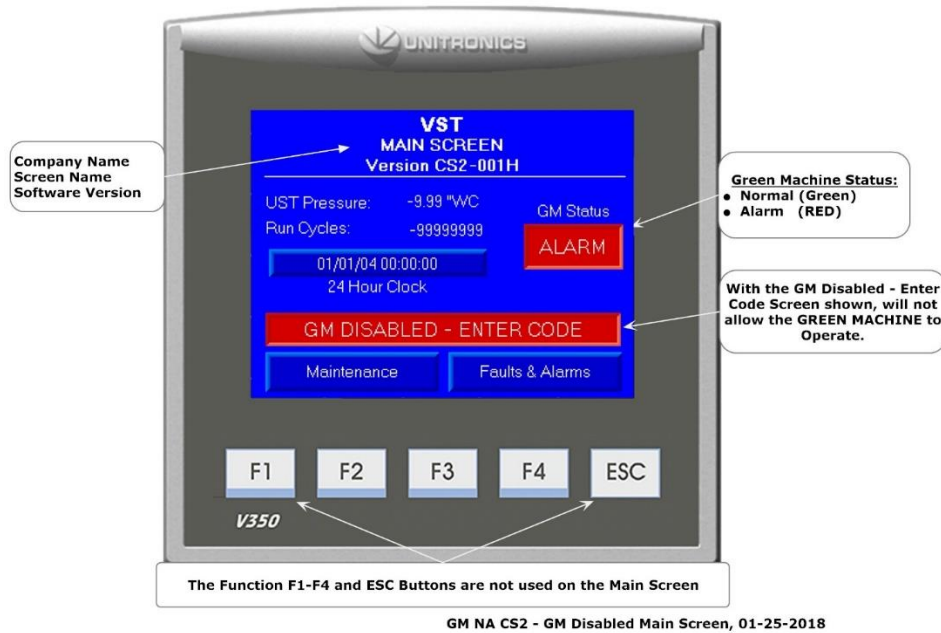

Figure 3-1: VST Control Panel - GM Disabled - Enter CODE Main Screen
4. See **Figure 3-1: VST Control Panel – GM Disabled – Enter CODE Main Screen**